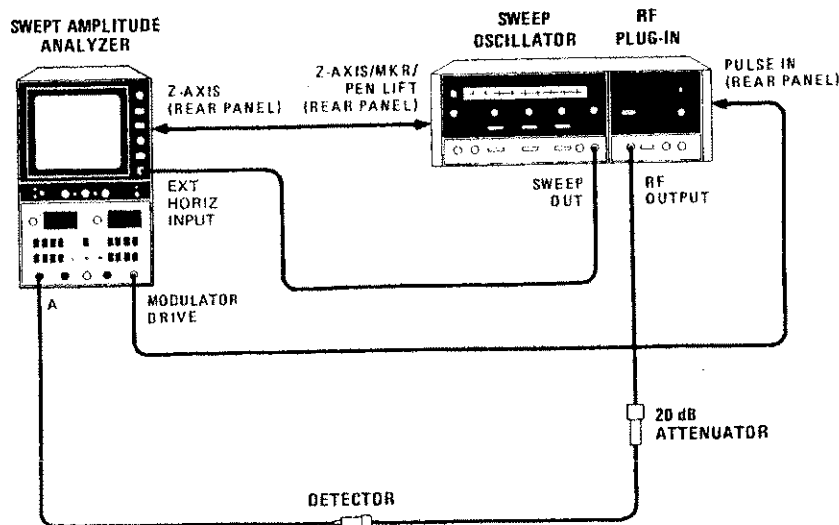

Figure 5-9. ALC Flatness Adjustment Test Setup
- a. Connect equipment as shown in Figure 5-9. Set RF Plug-in SLOPE control to CAL (fully counterclockwise). Push 8620C FULL SWEEP pushbutton.